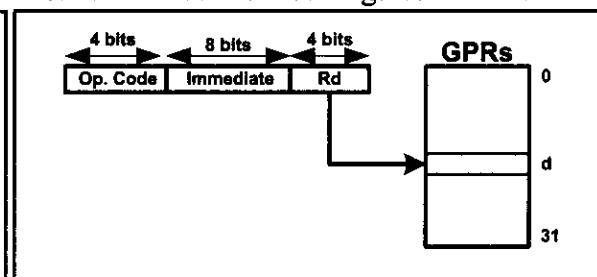

Figure 6-2b. Single-Register (with immediate)
3. Some AVRs have more than 64 I/O registers. The extra I/O registers are located above the data memory address \$5F. The data memory allocated to the extra I/O registers is called *extended I/O memory*. As shown in Figure 6-2b, in the I/O direct addressing mode, the address field is a 6-bit address and can take values from \$00–\$3F, which is from 00 to 63 in decimal. So, it can address only the standard I/O register memory, and it cannot be used for addressing the extended I/O memory. For example, the following instruction causes an error, since the I/O address must be between 0 and \$3F: